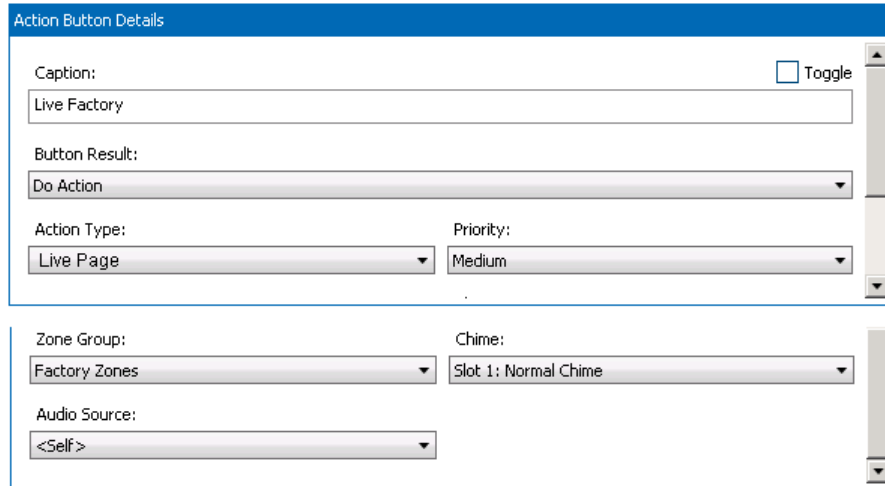

Figure 16-44: 5416CS Button Details
To edit a button, one clicks on the button in the 4x4 grid. This highlights the button by changing the background to green as shown at right. When selected, an Action Button Details box appears as shown in Figure 16-44. Since not all properties/controls fit within the window, one must scroll this details box down to see all the properties/controls. The additional properties one must scroll to see are shown in the lower half of the figure. The properties/controls that appear in this area will vary depending on the type of action being defined, e.g., Play Message vs. Live Page. What is shown in Figure 16-44 are the Live Page properties/controllers.
- Play Alarm – Initiate an alarm. If this is selected, the Alarm selector control as shown below appears instead of the other controls shown in Figure 16-44. With this selector, one can select which defined Alarm to initiate.
- Toggle Zone/Zonegroups – This button is used to select a zone or a zone group to be used with a Do Action type button. This allows the Do Action buttons to have variable destinations depending on which of the Toggle type buttons are selected at the time. When this option is selected, the Zone/Zone Group selector control as shown below appears instead of the other controls shown in Figure 16-44. Clicking on the [...] button brings up the Zone/Zone Group Selector window as shown in Figure 16-45. One can expand either group and select the zone or zone group before clicking on the “OK” button.